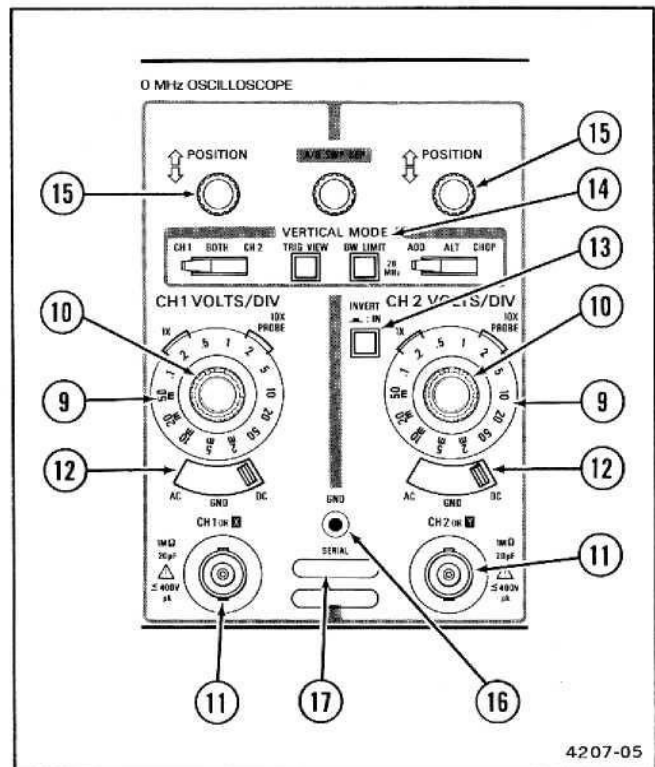

Figure 2-4. Vertical controls and connectors.
Refer to Figure 2-4 for location of items 9 through 18.